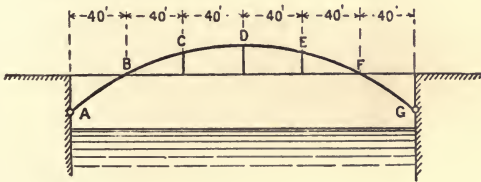

Fig. 6.
6. The two-pin parabolic arch  $ADG$  represented in fig. 6 has a span of 240 feet and a rise of 48 feet. Due to the roadway vertical forces of 20 tons act on the arch at the points  $B, C, D, E, F$ . Assuming that the arch is of uniform section throughout and that the abutments are perfectly rigid, determine the horizontal thrust at the hinges, and draw the bending moment diagram for the arch.